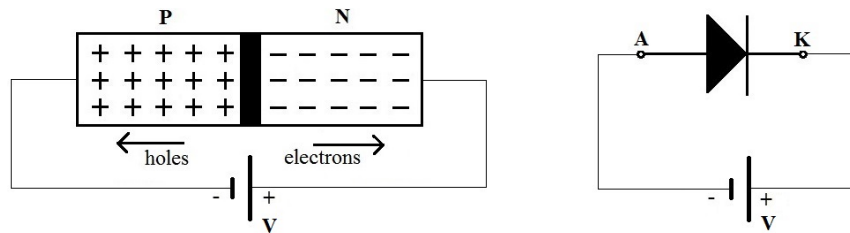

Fig.4.5. Reverse biasing of PN junction
- When the battery connection is made as shown in Fig.4.5., holes are attracted by the negative battery terminal and electrons are attracted by the positive battery terminal. Hence electrons and holes move away from the Junction. As there is no electrons hole recombination, there is no current flow due to majority carriers. The applied reverse voltage increases the barriers potential.